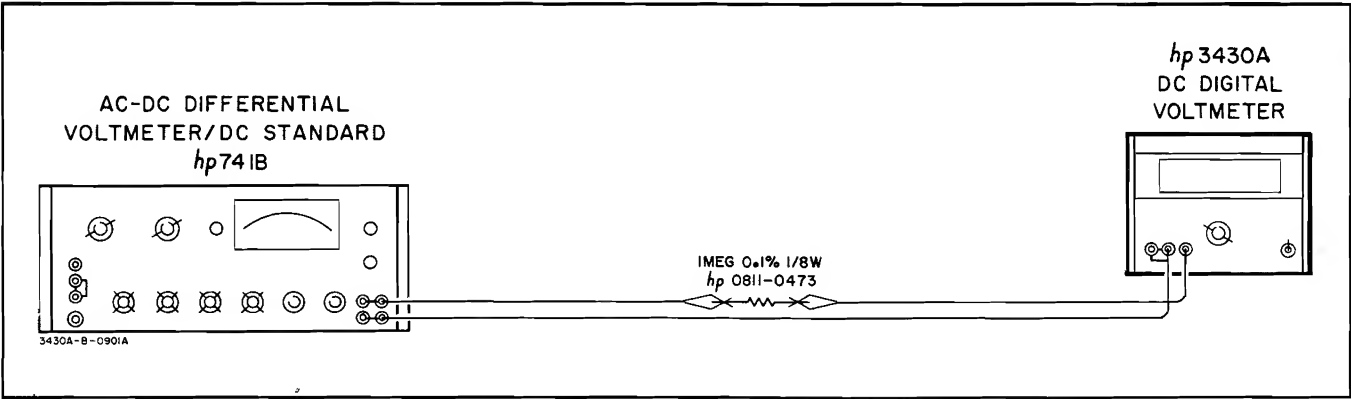

Figure 5-2. Input Resistance Check
- Connect 3430A as shown in Figure 5-2. The 1 MΩ resistor (-hp- Part No. 0811-0473) and the 3430A input resistance form a series voltage divider.